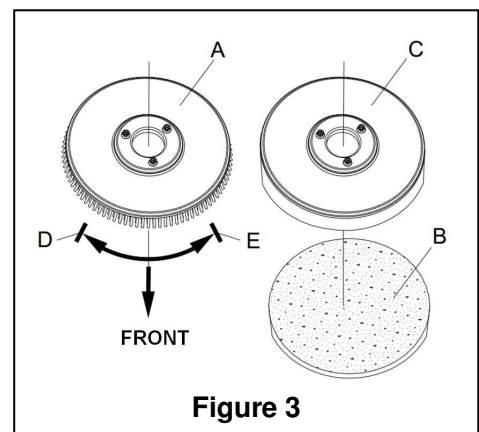

Figure 3
According to the type of floor to be cleaned, the machine may be installed with brush (Figure 3, A), or a pad-holder (Figure 3, B and C).
1. Put the brush (A) or the pad-holder (B – C) under the case.
2. Use the handle (2) to lower the tank body (26) to come into contact with the brush or pad-holder.
3. Manually attach by following the arrow head (D) to install the brush/pad-holder (as shown in Figure 3).
6. Remove by turning the brush/pad-holder in the opposite direction and it can be taken off. (Figure 3)